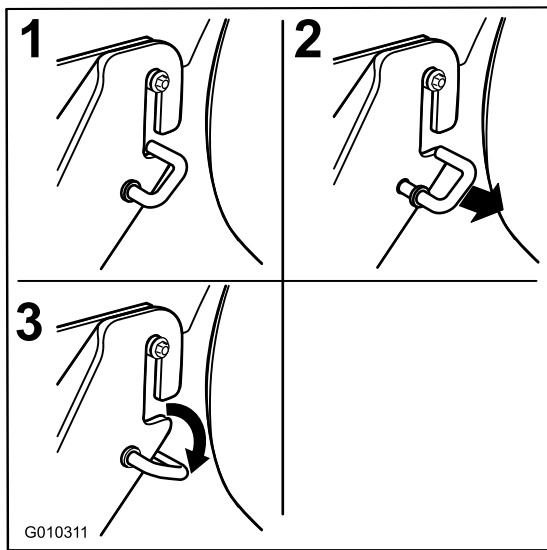

Figure 63
1. Move the spring loaded J-hooks out of the slot in the rear hanger brackets on both sides of the deck (Figure 63).